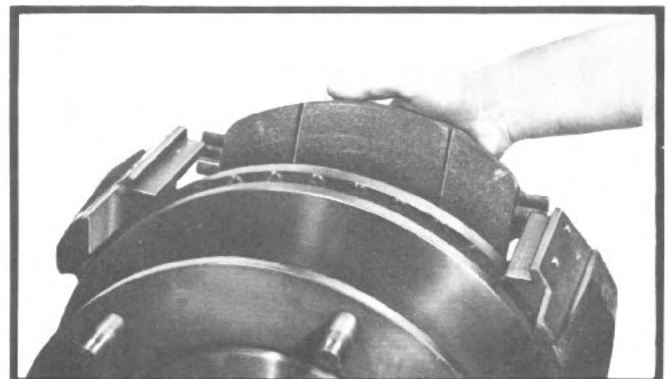

Fig. 23—Removing shoe and lining assembly.
(1) Remove the inner shoe and lining assembly from the torque plate. (Fig. 23)
(1) Install new shoe and lining assembly into torque plate. (Fig. 23)
(2) Push the pistons to the bottom of the piston bore. This is done by taking a small block of wood and placing it over the pistons and boots. With a